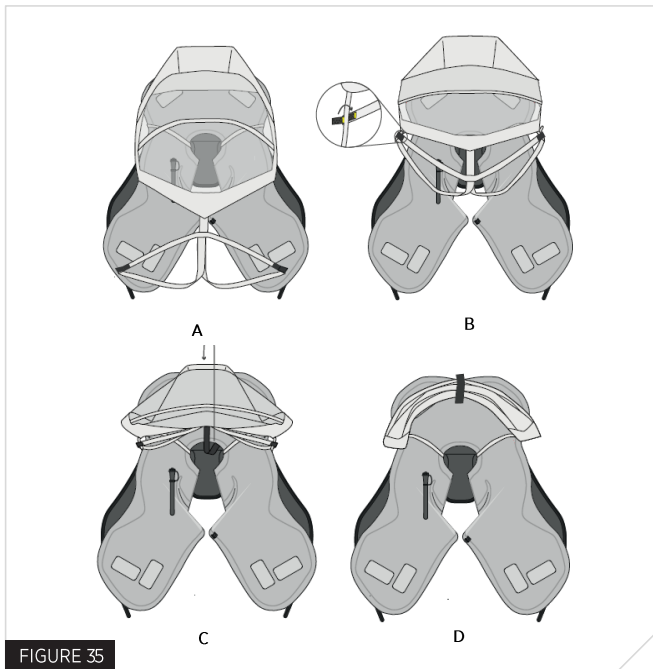

FIGURE 35
1. Place the deflated PFD on a flat surface with the oral tube facing up (see “Deflating your PFD”, page 11). Lay the sprayhood out flat on top of the bladder (Fig. 35, A).
2. Connect the hook and loop tabs around the visor side anchor points (Fig. 35, B).
3. Fold the bottom of the hood up and secure by wrapping hook and loop (Fig. 35, C).
4. Bring the folded sprayhood back (Fig. 35, D) and continue to next section.